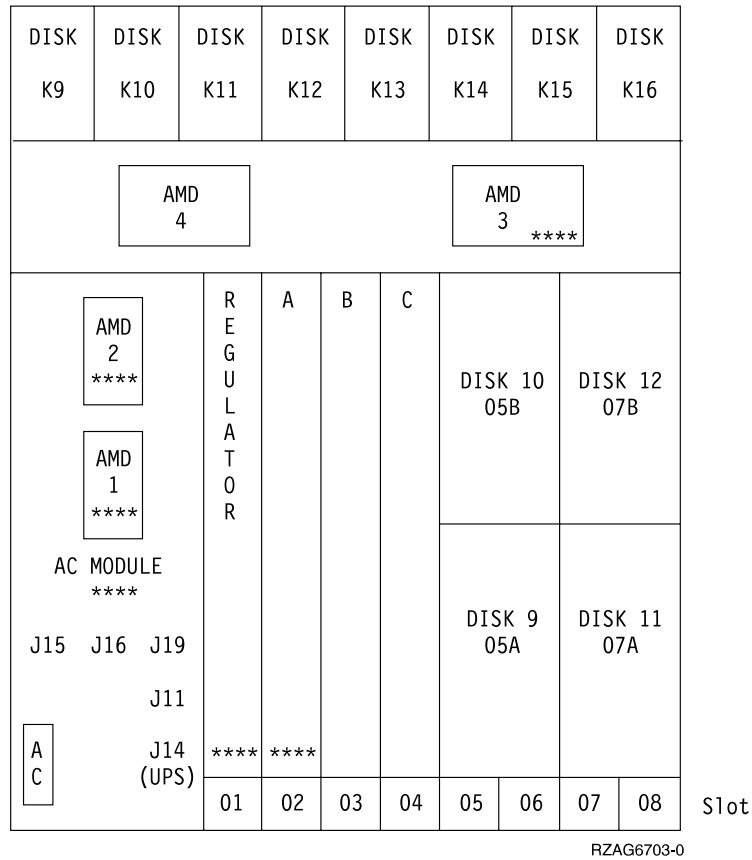

Figure 38. Rear View
4. Figure 38 on page 715 is shown with FC 5052/5058 installed.